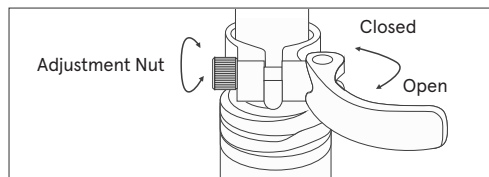

Fig. 9
1. Open the seat post quick release lever (**Fig.9**). Apply a small amount of grease to the seatpost. Insert the seat post into the seat tube to sufficient depth so that the minimum insertion line is no longer visible. **NOTE:** The lever should require some force to close. If it closes too easily and does not hold the seat post in place, or if the effort to close the clamp is too great, adjust the clamping force by loosening or tightening the adjusting nut on the side opposite the lever.